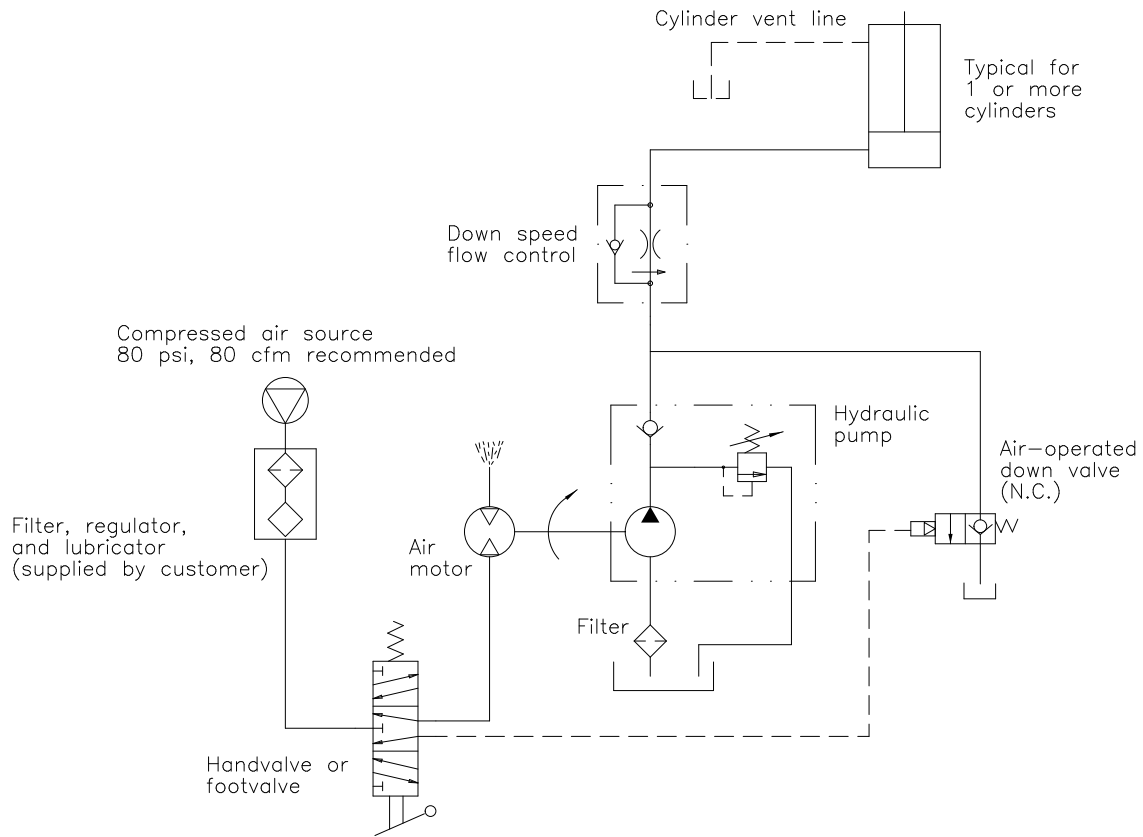

Figure 12 – Hydraulic Diagram - Unit Powered by Air Motor
If the pump has been changed, the coupling may not have been installed. See the pump assembly in Fig. 12.
2. The check valve may be leaking. Dirt on the valve seat will prevent the valve from closing fully. The check valve is mounted in the base of the pump housing, as shown in Fig. 12. Remove the check valve cap and inspect the valve for dirt or metal chips which may be preventing it from closing. You may be able to restore the seal by lightly rapping the ball into the seat using a 1/4" diameter rod and a small hammer.
2. The down valve may be de-energized. When the lift is lowering, the down valve should be energized and fully open. Check the solenoid in the valve with a volt meter. The valve must also be clean and free to operate. Remove the solenoid, then the down valve. Look for contamination which could block the valve action. Clean the valve plunger with kerosene, then blow it clean with compressed air. The strainer screen over the lower part of the plunger must be clean. See Fig. 12. Before reassembly, depress the plunger manually several times to be sure it moves freely. The expansion nut which holds the solenoid should be finger tight only!